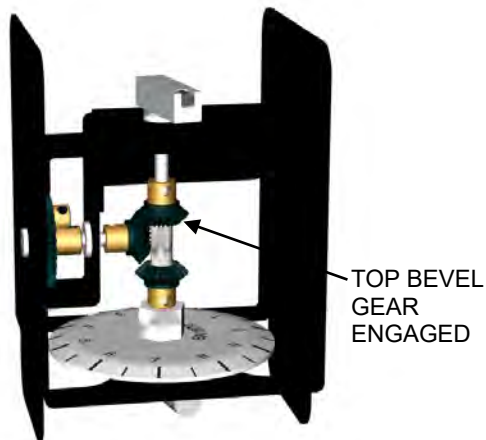
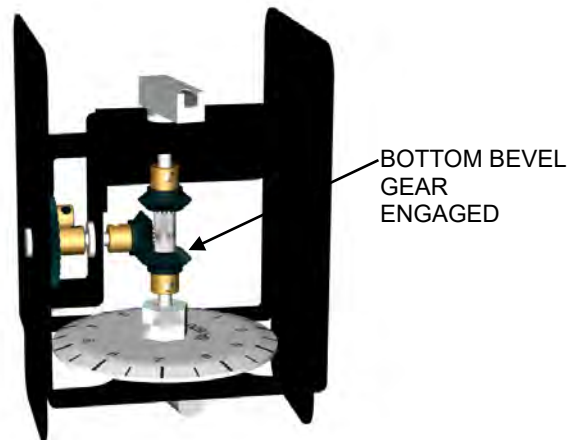

Figure 3-2 CCW base set up
Figure 3-3 CW base set up
3. For rear door housing, remove screws on rear door for access to the gears. If the top bevel gear on the vertical shaft is lowered to engage the counter drive gear, the base assembly is configured for CCW rotation. (Figure 3-2). If the bottom bevel gear on the main shaft is raised to engage the counter drive gear, the base assembly is configured for CW rotation. (Figure 3-3) The top gear should be raised to the bottom of the shaft collar at the top of the vertical shaft.